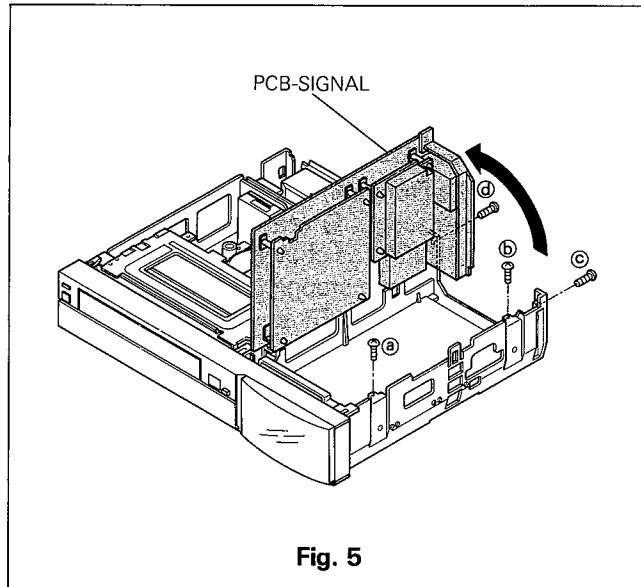

Fig. 5
- B. Remove the four screws (Ⓐ ~ Ⓢ) as shown in Fig. 5.